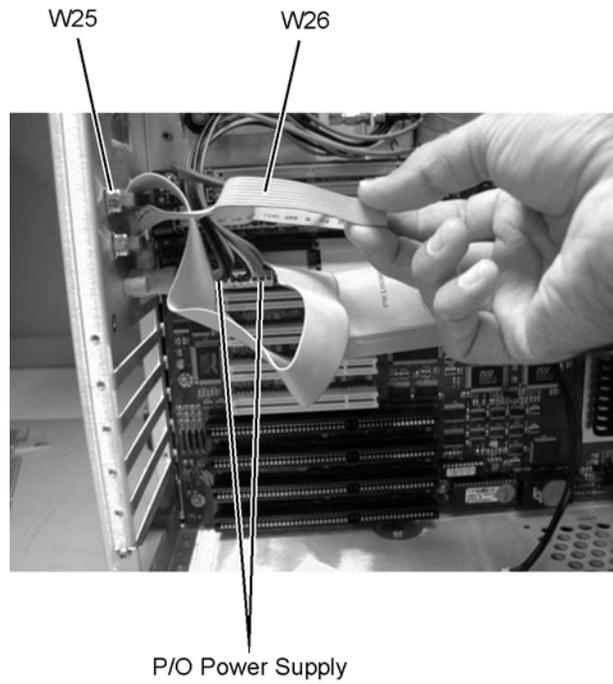

Figure 7-42. W25, W26, and Power Supply Cables
- 11 Refer to Figure 7-42 through Figure 7-45 for cable connections.